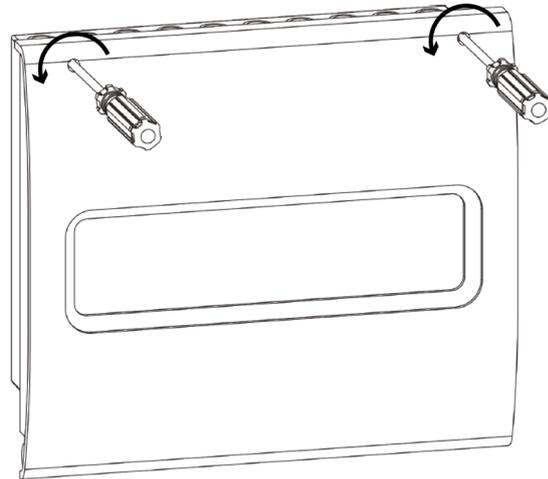

Figure 13. Remove Panel front cover
- To remove the front cover of the panel, unscrew the two retaining screws located at the top corners of the panel. See Figure 13.
- Fit the door back onto the back page by following the reverse instructions on the previous page (see Figure 13).
Connect the cables from the repeater panel to the Repeater terminals on the main board of the fire alarm panel, observing the correct polarity (see Figure 13 on the previous page).